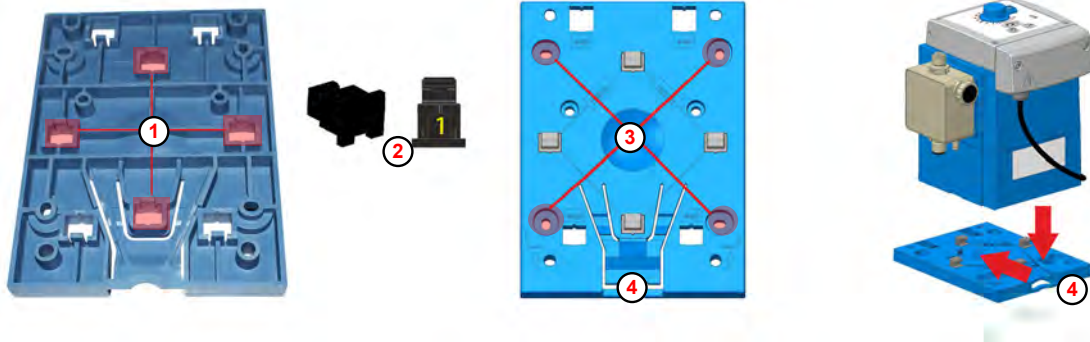

Fig. 4: Preparations for table mounting
*On the underside of the mounting plate, the boreholes for countertop mounting ( Fig. 4 , ③ ) are marked with a 1. Only fixing elements ② with the number 1 may be used for table mounting.*
2. Push the fixing elements from the rear ② into the four openings marked 1 ① and allow them to engage.
4. Using the mounting plate as a template, mark the required boreholes ③ with a sharp pencil.